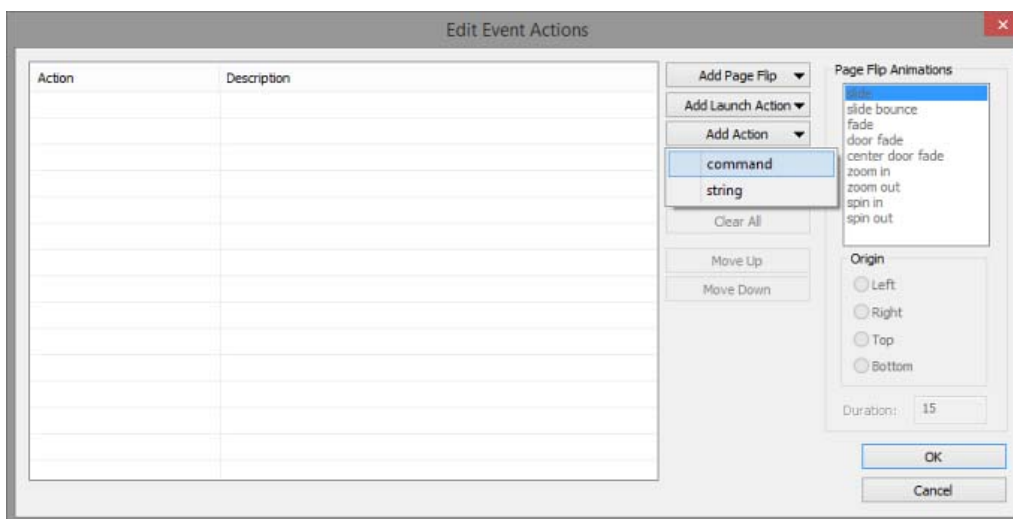

FIG. 386 Edit Event Actions dialog - Add Action drop-down menu
4. Click **Add Action** and select *command* from the drop-down menu (FIG. 386):